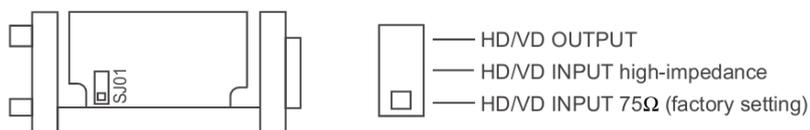

Figure 15: IK-TF5 internal DIP switch setting.
1. the internal DIP switch (accessed by removing the metal chassis of the camera) should be set in the HD/VD Input 75 Ohm position (factory setting), as in Fig. 15.